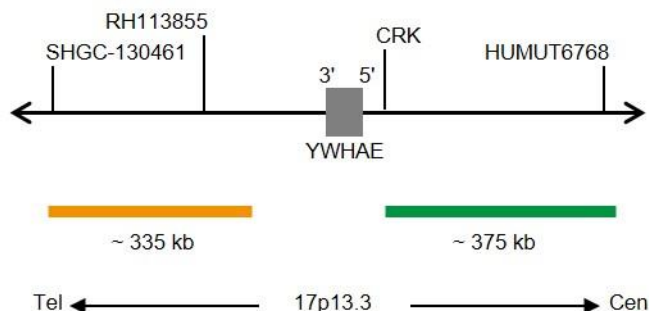

Fig. 1: SPEC YWHAE Probe map (not to scale)
- ZyGreen (excitation 503 nm/emission 528 nm) labeled polynucleotides (~10.0 ng/ μ l), which target sequences mapping in 17p13.3* (chr17:1,339,752-1,716,668) proximal to the YWHAE breakpoint region (see Fig. 1).
- ZyOrange (excitation 547 nm/emission 572 nm) labeled polynucleotides (~4.5 ng/ μ l), which target sequences mapping in 17p13.3* (chr17:791,171-1,124,746) distal to the YWHAE breakpoint region (see Fig. 1).